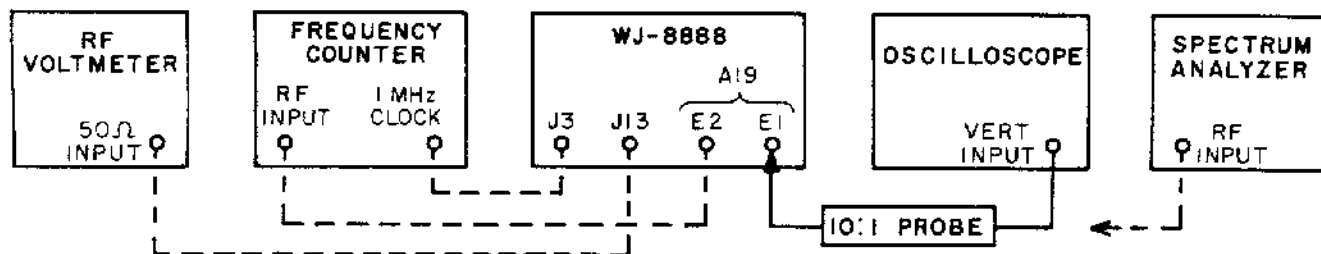

Figure 5-40. Test Setup, 2nd LO Alignment
- (15) Connect the oscilloscope as shown in Figure 5-40.
- (16) Put the RCVR CONTROL in the LOCAL mode and tune the receiver to 00.505 00 MHz.
- (17) Adjust the turns spacing of A19L3 to remove any oscillation present. This should only be required if the circuit has been repaired.
(18) A noisy dc level should be present on the oscilloscope. Adjust A19C7 through its full range and note the dc shift of the noisy base line. Then adjust A19C7 so the dc level rests between the two extremes.
(19) Connect the frequency counter and RF voltmeter as shown by the dashed lines in Figure 5-40.
(20) Put the rear panel CLOCK switch in the EXT position.
(21) The frequency counter should indicate 36.000 00 MHz. (It may be necessary to connect a 6-dB attenuator to the RF input of the frequency counter to make this measurement.)
(22) Tune the receiver from 00.500 00 MHz to 00.509 99 MHz while observing the RF voltmeter. Then adjust A19L9 and A19L10 for a response flat to within 0.5 dB. Level should be at least 50 mV.
(23) Connect the frequency counter RF input to J13 in place of the RF voltmeter.
(24) Tune the receiver to 00.500 00 MHz; the frequency counter should indicate 72.109 99 MHz.
(25) Tune the receiver to 00.509 99 MHz; the frequency counter should indicate 72.100 00 MHz.
(26) Set the rear panel CLOCK switch to INT.
(27) Connect the spectrum analyzer shown in Figure 5-40 to J13.
(28) Set the spectrum analyzer controls to the conditions given in column A.